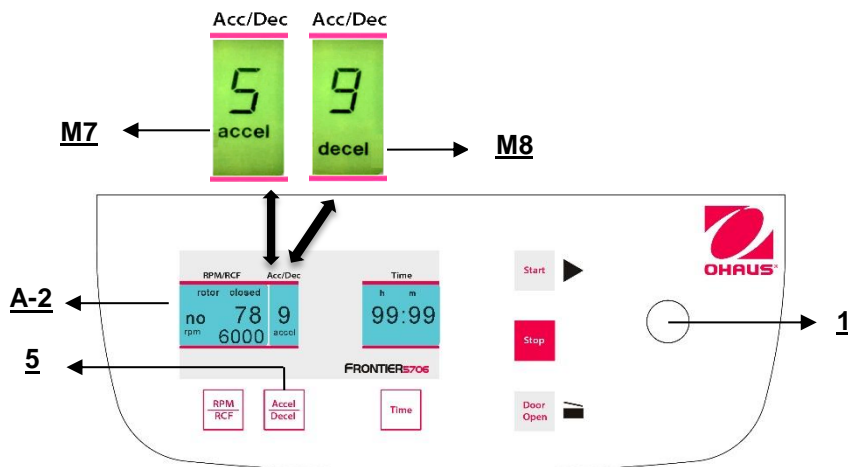

Figure. 21
This function is activated through the key "**Accel/Decel**" (5) (refer to figure 21).